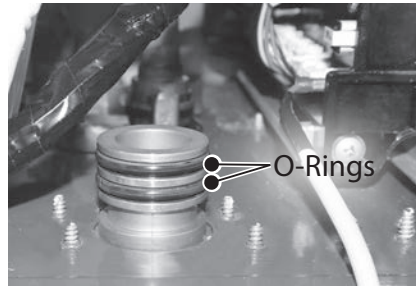

Figure 93 - Gas connector O-rings
- 22** Locate the gas connector O-rings and remove them. Install two new O-rings to gas connector. See Figure 93.